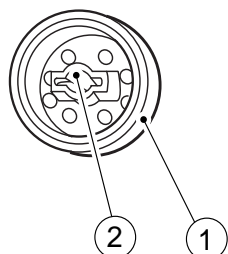

Figure 4-338
When installing the pick-up roller ①, install it so that the marking ② shown in Figure 4-338 is toward the rear.